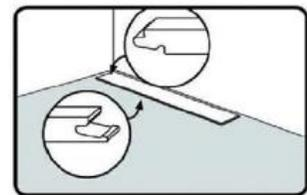
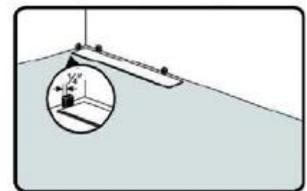

Figure 1
Figure 2
1. Installation should begin in a corner (left side of room) and proceed from the wall with the Tongue facing toward the wall. (Figure 1.) Allow minimum gap of 1/4" (Figure 2.) for subfloor movement or product expansion.
2. Starting in the farthest left, upper corner of the room position. The first plank so that both the head and side seam groove is exposed. This requires installing the product from left to right in the room (Figure 2).